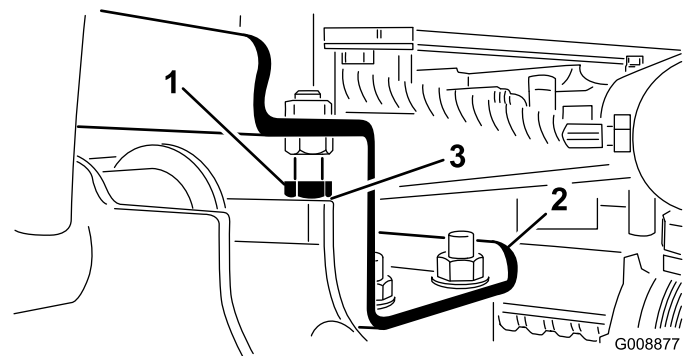

Figure 26
2. Check to ensure that the clearance between each lift arm and stop bolt is 0.13 to 1.02 mm (0.005 to 0.040 inches) (Figure 26).